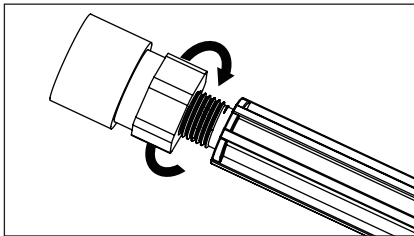

Fig. 2
1. Screw the nozzle adapter onto the spray wand. (Fig. 2)